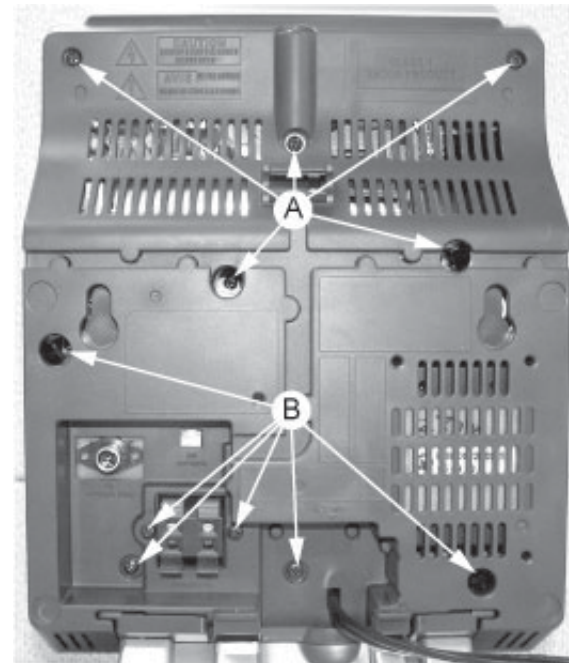

Figure 2
- 2) Loosen 5 screws A and 6 screws B to remove the Rear Cabinet as shown in figure 2.